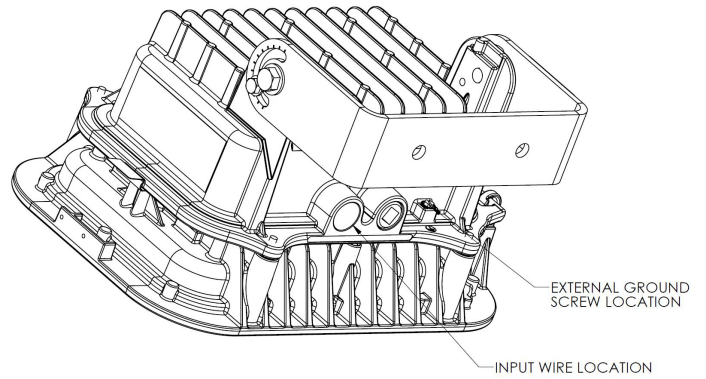

Figure 6
1. Unscrew the ground lug fastener shown in Figure 6.
3. Torque ground lug fastener down on ground wire. Torque to 25 in.-lbs. [2.82 N-m], as shown in Figure 6.